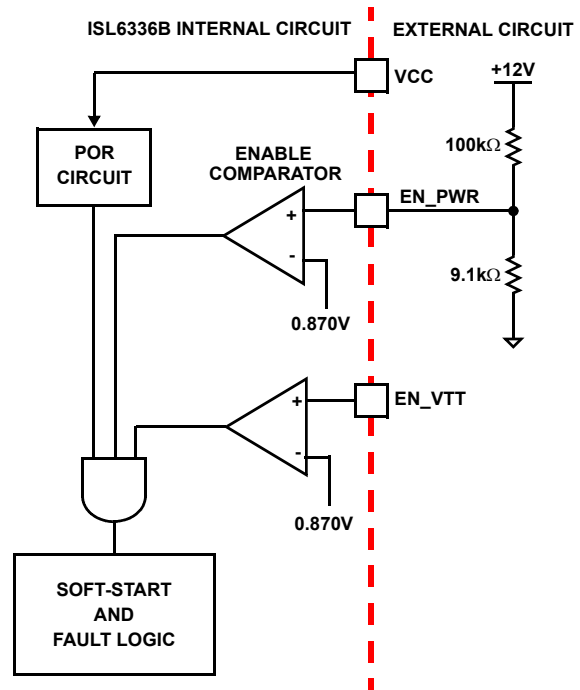

FIGURE 8. POWER SEQUENCING USING THRESHOLD SENSITIVE ENABLE (EN) FUNCTION
2. The ISL6336B features an enable input (EN\_PWR) for power sequencing between the controller bias voltage and another voltage rail. The enable comparator holds the ISL6336B in shutdown until the voltage at EN\_PWR rises above 0.870V. The enable comparator has about 130mV of hysteresis to prevent bounce. It is important that the driver ICs reach their POR level before the ISL6336B becomes enabled. The schematic in Figure 8 demonstrates sequencing the ISL6336B with the ISL66xx family of Intersil MOSFET drivers, which require 12V bias.